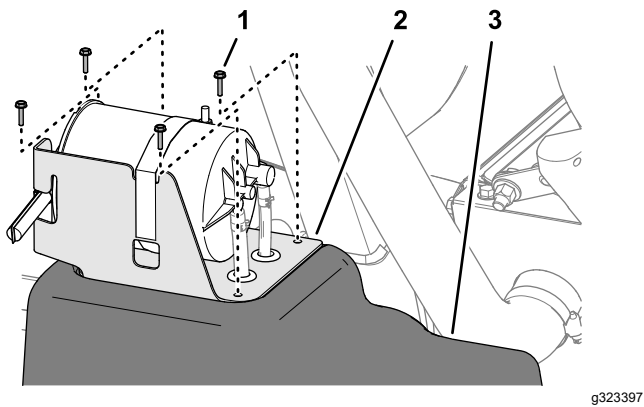

Figure 124
5. Align the holes in the carbon-canister bracket with the holes in the fuel tank (Figure 124).
6. Assemble the bracket to the tank (Figure 124) with the 4 screws (#10 x 3/4 inch).